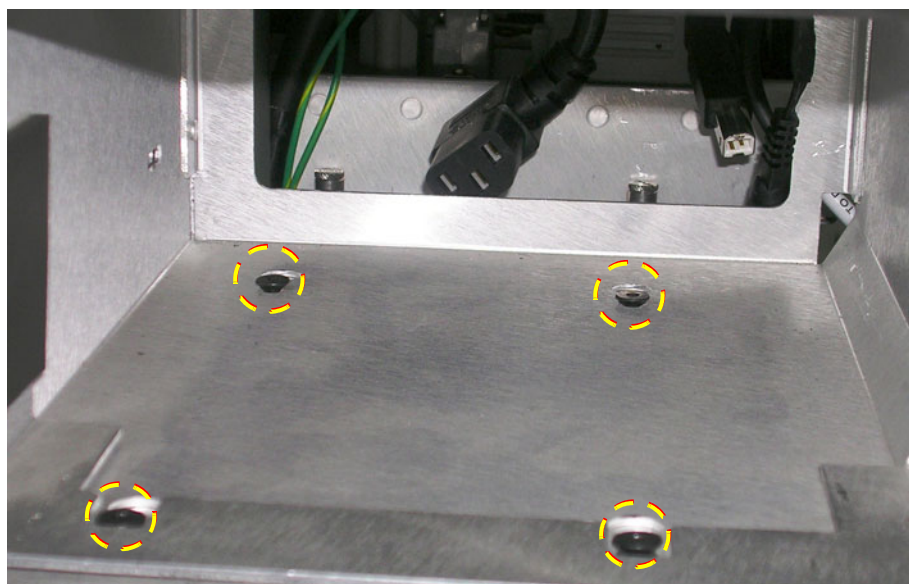

Figure 8-269 Location of Peripherals Console Retaining Screws
3) Loosen the 4 retaining screws that secure the peripherals console in position, as shown in Figure 8-269.
1. Place the new peripherals console in its position on the system and secure with securing screws previously released - Figure 8-269.